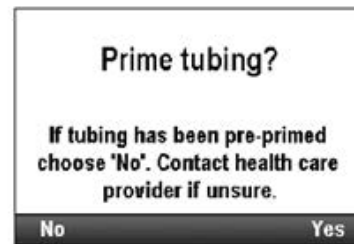

Figure 8: "Prime tubing?" screen
- When **Disconnect Tubing** appears, make sure you are not connected to the IV catheter. Check to make sure all the clamps are open. Press **Prime**. See Figure 8.